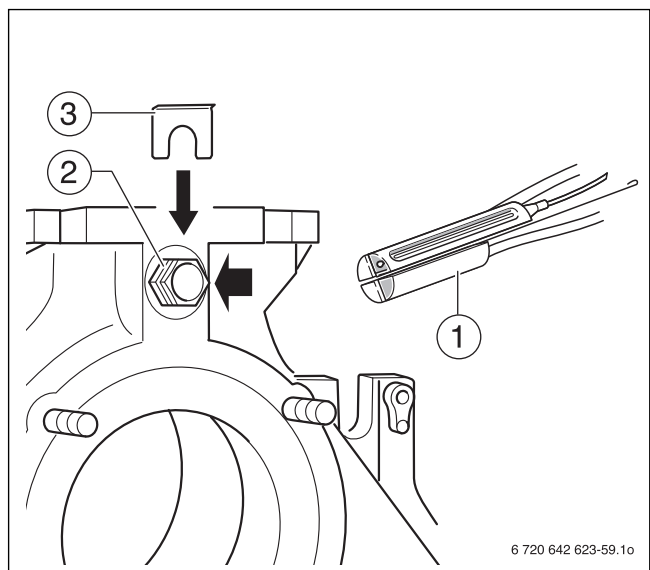

Fig. 62 Installing the temperature sensor assembly
The temperature sensor set connected to the control panel (consisting of three temperature sensors and one sensor blind piece → Fig. 62, [1]) is installed in the sensor well R $\frac{3}{4}$.
- ▶ Route capillary pipe sensor to the measuring port of the boiler and then guide the sensor into the sensor well (→ Fig. 62, [2]) and secure with the retaining clip (→ Fig. 62, [3]).